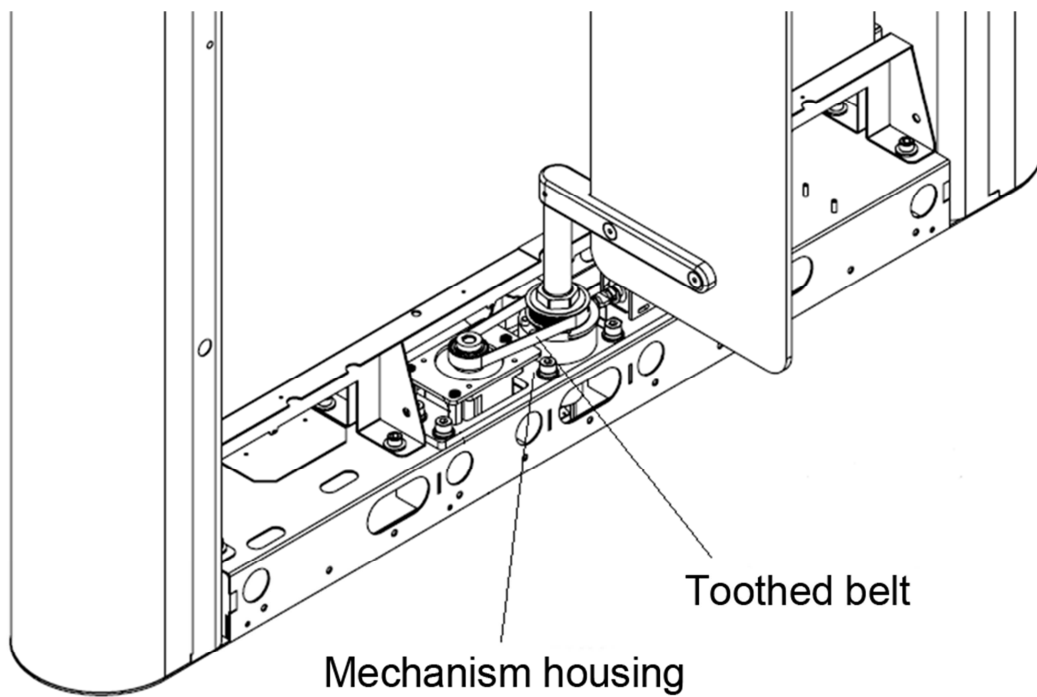

Fig. 3
4.4. Check the condition of the toothed belt and its tension (Fig. 3).